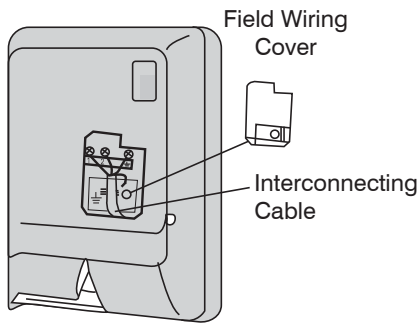

Fig. 15 - Field Wiring Cover
5. Open front cover of indoor unit and remove field wiring terminal block cover (see Fig. 15).